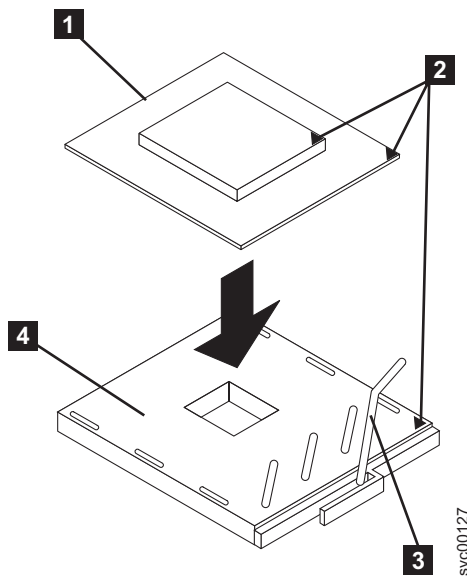

Figure 168. Microprocessor locking lever in open position
3. Rotate the locking lever **3** from the closed position to the open position. See Figure 168.